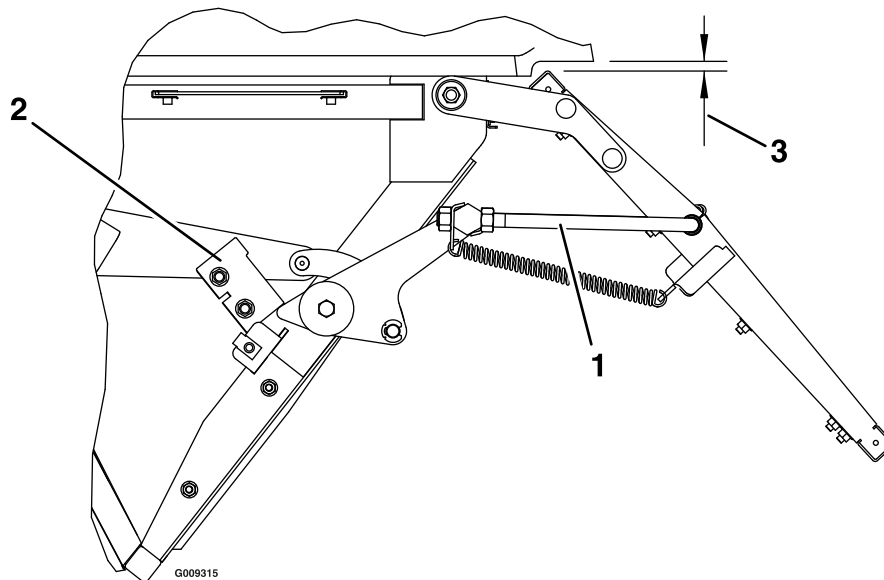

Figure 25
1. If the door does not close properly adjust the rods as shown in Figure 25.
Adjust the position of the stops (see Figure 25) so that the door link contacts them when the upper tube of the door frame is within 1/4 inch (6.35 mm) \pm 1/8 (3.2 mm) from the lower lip of the hopper.